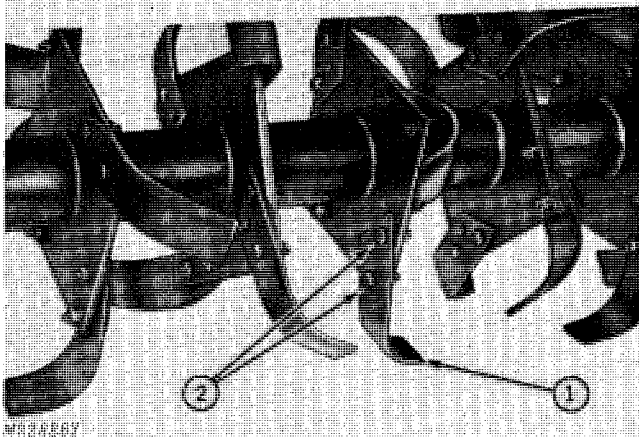

Fig. 8-Replacing Tines
1. Remove old tine and install new tine. Be sure cutting edge on tine is facing direction of rotor tine shaft rotation, Fig. 8.